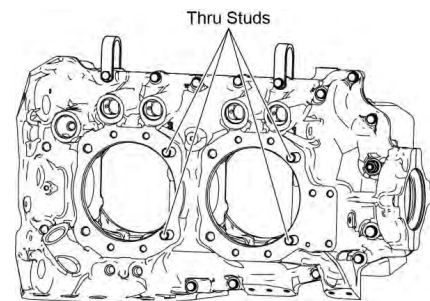

Figure 83
- (9) Lubricate each crankcase thru-stud with the specified lubricant identified in the latest revision of Service Instruction No. SI-1029.
- (10) Install thru-studs on the crankcase in the specified locations in Figure 83 where the studs extend equally on both sides of the crankcase. (An optional Crankcase Thru-Stud Driver ST-317 can be used to install thru-studs.)